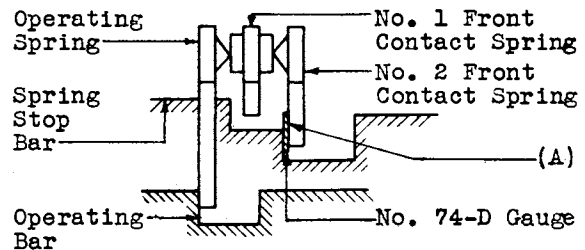

Fig. 26
Fig. 26 (A) - With the operating bar in the operated position, a .004" feeler gauge inserted between the tang of the No. 2 front contact spring and the side of the associated notch in the spring stop bar nearer the cam roller, will not cause the contacts to break. Use the No. 74-D gauge.